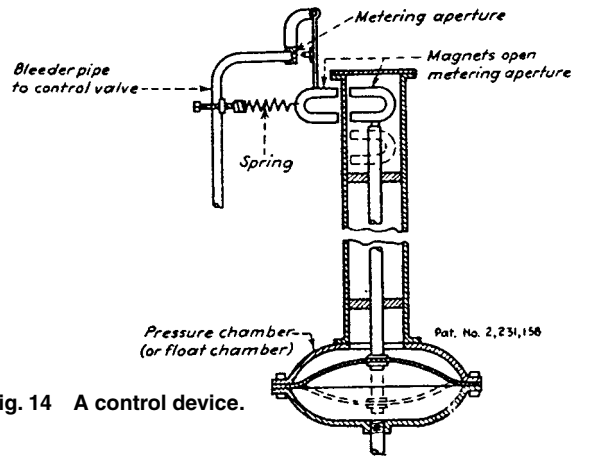

Fig. 14 A control device.
**Fig. 14** Snap action in this refrigerator control is obtained from a bowed flat spring. The silver contacts carried on an extended end of the spring open or close rapidly when movement of the bellows actuates the spring. With this snap action, the contacts can control an alternating-current motor as large as 1½ hp without auxiliary relays. Temperature differential is adjusted by changing the spacing between two collars on the bellows shaft passing through the contact spring. For the temperatures needed to freeze ice, the bellows system is partly filled with butane.